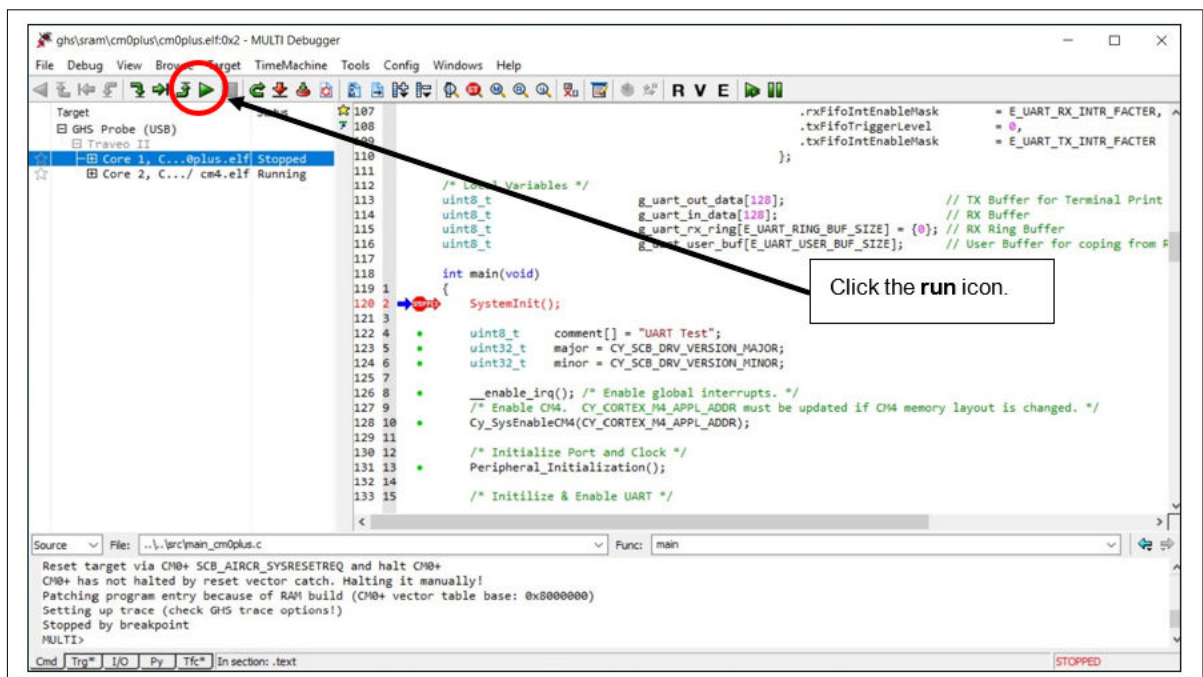

Figure 14 Execution on RAM
4. Click the **run** icon as shown in Figure 14.